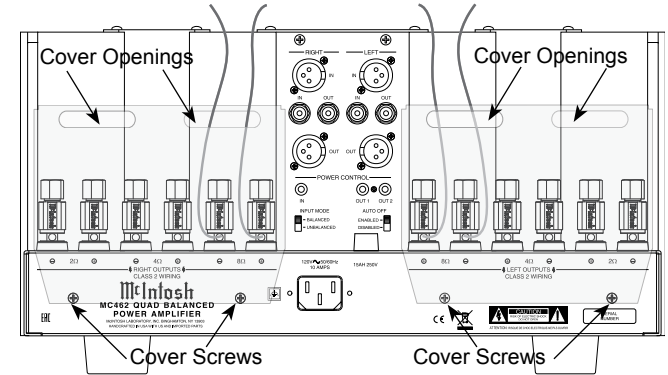

Figure 6 (Outside USA and Canada)
13. Locate the Terminal Connection Covers from the inside of the MC462 shipping carton. Insert the just prepared Loudspeaker hookup cables thru the cover openings, one cover for each channel. Refer to figure 6.
*Note: The illustration in figure 6 is connections for 8Ω (ohms) Loudspeakers.*
- 15. Attach the Terminal Connections Covers to the MC462 Rear Panel with the previously removed Screws. Refer to figure 6.